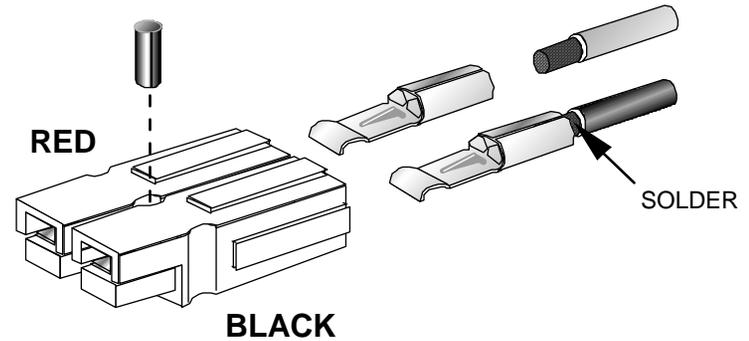

Figure 47. Power Cable Connector Assembly.
- Locate the two Anderson power connector shells. Orient them as shown in Figure 47 and slide them together so the tongue on one side fully engages the groove on the other half.
Insert the terminals into the housings exactly as shown in Figure 47. The terminals should snap securely in place. Pull on the wires individually and make sure they cannot be pulled out (if so, the terminals are probably inserted upside down).